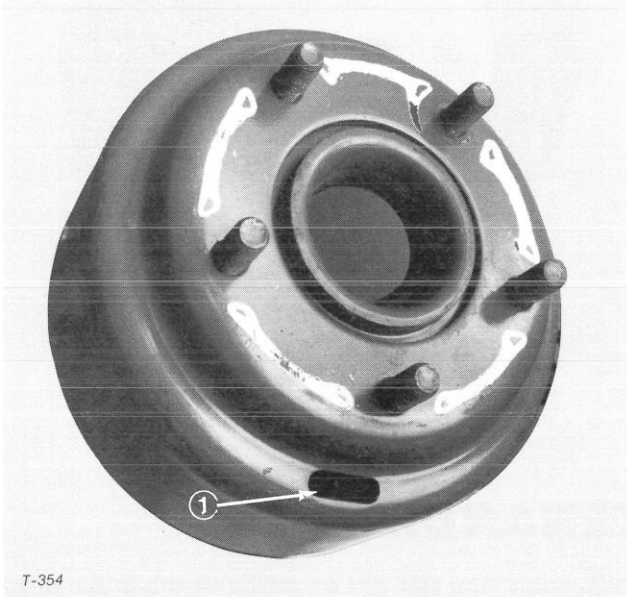
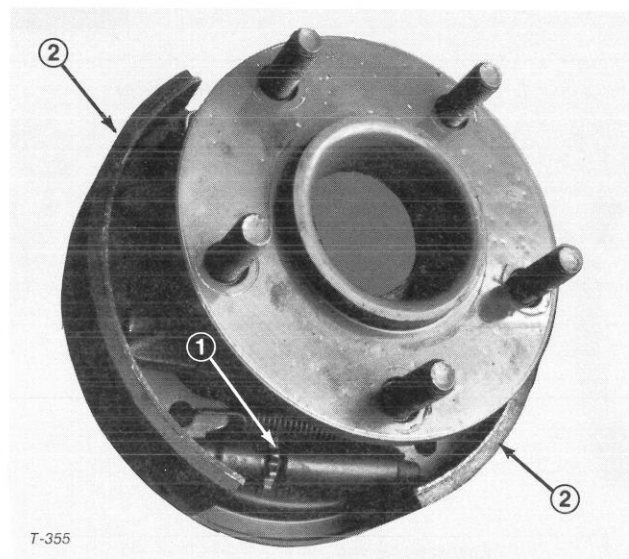

Figure 59
Figure 60
5. Remove wheel nuts and slide wheel and tire assembly off studs. Rotate brake drum until adjusting slot is at bottom and centered over star-nut that adjusts brake shoes (Fig. 59).
6. Using a brake adjusting tool or screwdriver, rotate star-nut (Fig. 60) down until brake drum (Fig. 59) locks because of outward pressure of brake shoes (Fig. 60).